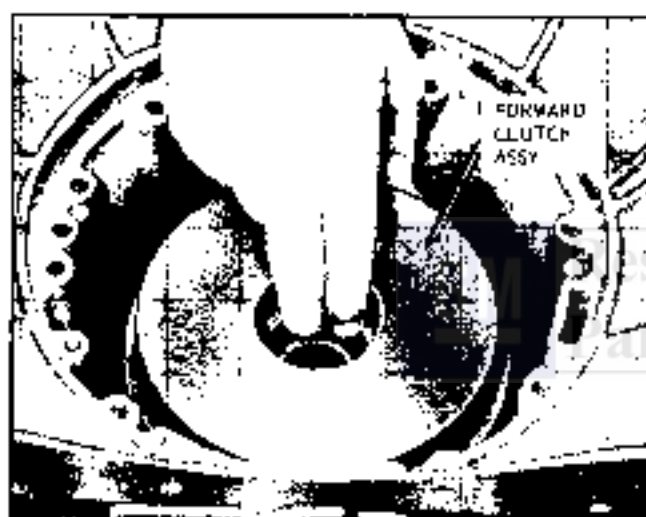

Fig. 7F-97 Installing Forward Clutch
3. Install low band apply strut and band adjusting screw strut (Fig. 7F-96). After both struts have been installed, tighten low band adjusting screw enough to prevent struts from falling out.